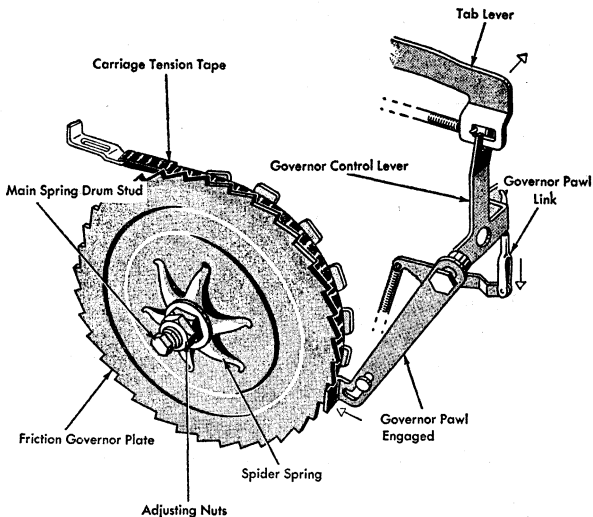

Figure 36. Tab Governor Adjustment
9. TAB GOVERNOR PAWL LINK. Adjust this so that, when the tab lever is latched, the governor pawl will engage the friction plate by the thickness of its own metal (Figure 36).
10. FRICTION GOVERNOR PRESSURE. Adjust this by means of the two lock nuts on the hub of the main spring drum until the speed of tabulation approximates the speed of carriage return (Figure 36). Check the speed by clearing all tab stops except the last one on the right. Operate the carriage return and tab several times to determine this speed. To check for accurate tabulation, latch out the tab lever under power and tabulate to several tab stops. Tabulation will be operating correctly if the tip of the tab check lever comes to rest two spaces past the tab stop which was just struck by the check lever. This test should be tried on long, short, and medium length tabulations.